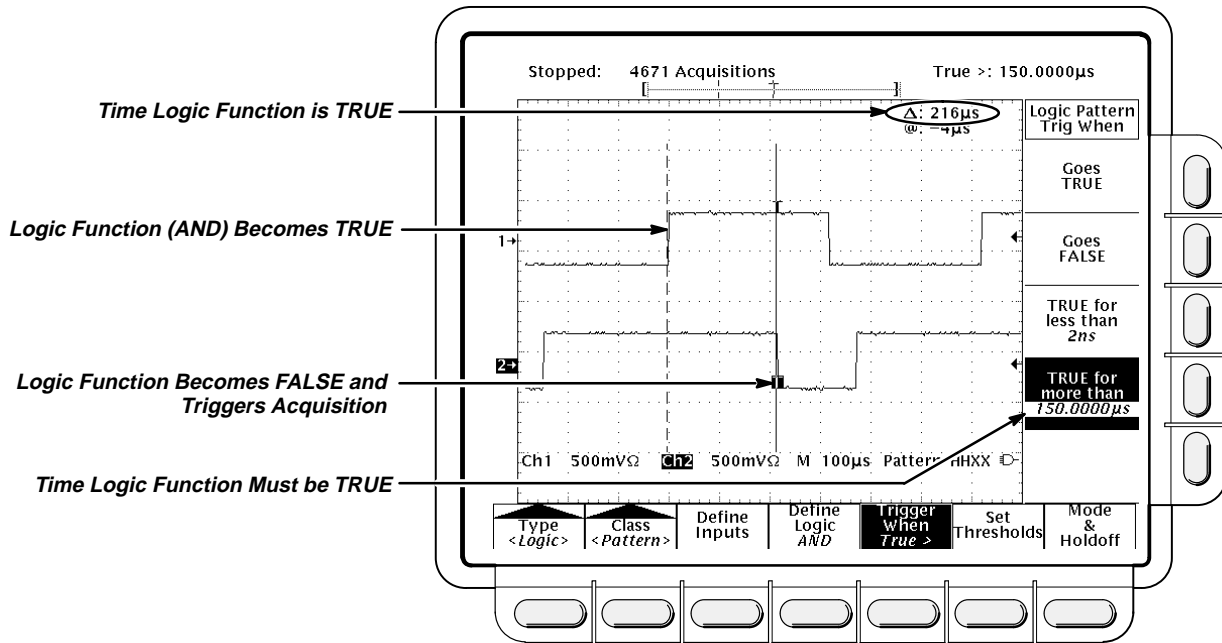

Figure 3-44: Logic Trigger Menu — Time Qualified TRUE
Note the position of the trigger indicator in Figure 3-44. Triggering occurs at the point the logic function you specify is determined to be true within the time you specify. The digitizing oscilloscope determines the trigger point in the following manner:
In Figure 3-44, the delay between the vertical bar cursors is the time the logic function is TRUE. Since this time is more (216  $\mu$ s) than that set in the **True for more than** menu item (150  $\mu$ s), the oscilloscope issues the trigger at that point, not at the point at which it has been true for 216  $\mu$ s.